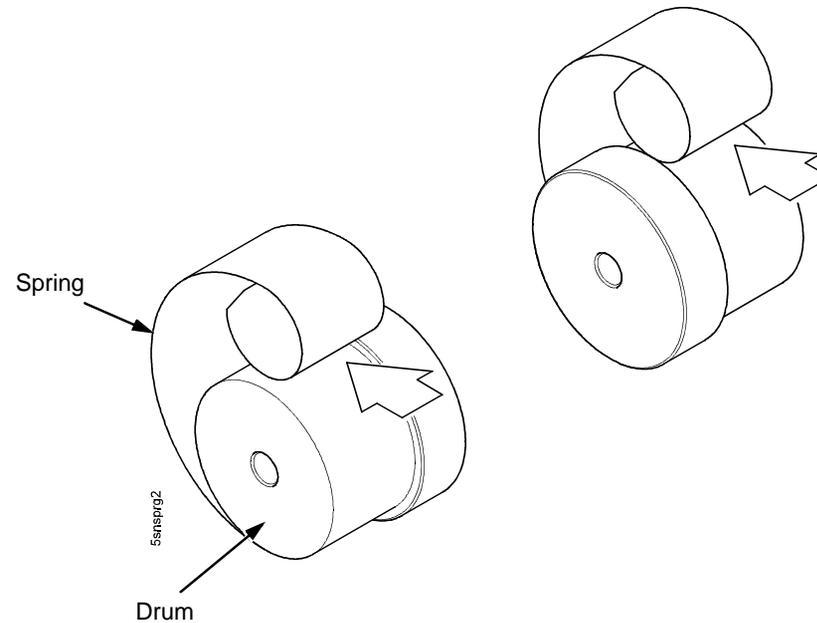

Figure 101. Removing the Constant Force Spring from the Drum
5. Lift the loose end of the constant force spring and let it curl up on the outside of the remaining spring and drum. (Figure 101.)
6. While holding the drum tightly, continue to curl the spring until it is completely unwound from the drum. (Figure 101.)